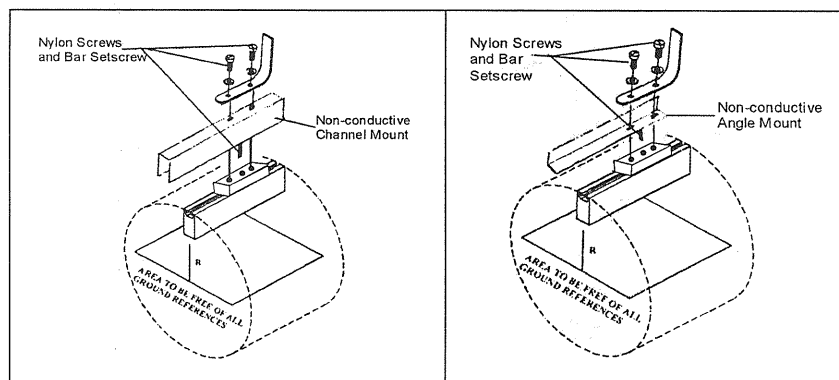

Figure 7
2. Determination of radius R depends on web speed. For varying web speed, radius R should be 2” from web surface. Refer to Figure 7 for maximum mounting distance of bar from web surface. In certain applications, the Blue Bar has been found to work well at distances in excess of 6”.
3. Insert nylon screws through washers, then metal bracket, insulation block and finally into the sliding nuts supplied with each Blue Bar (see Figure 7).